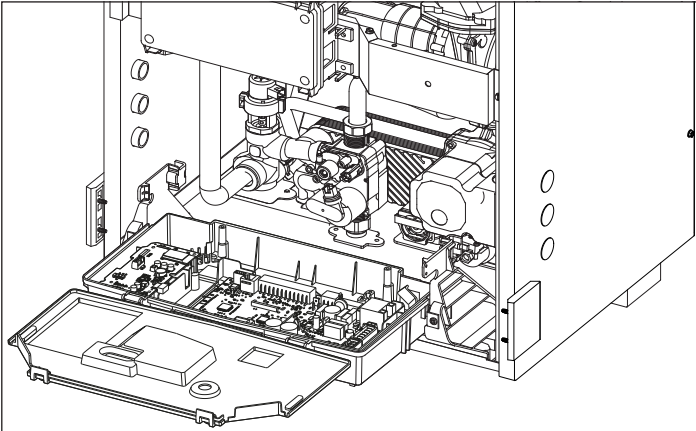

Figure 50 - Access to Low Voltage Wiring Connections
6. Open the control panel cover to have access to the main PCB. See Figure 50.